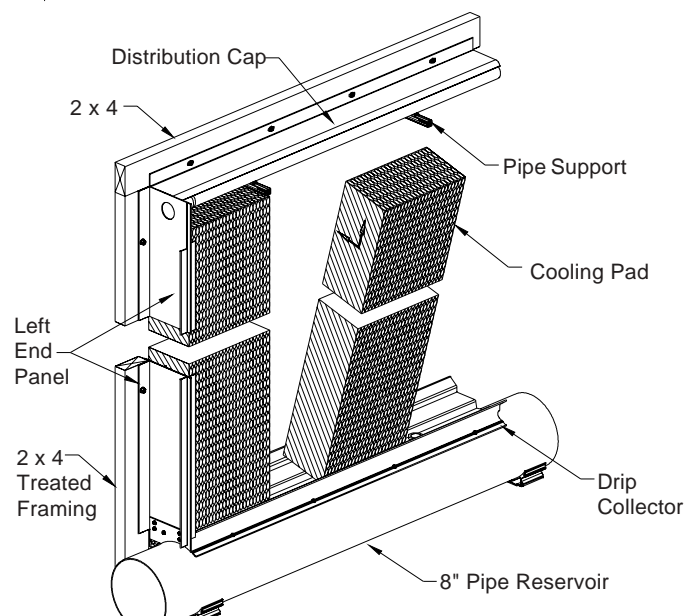

Figure 15
- 21) Make sure caulk is dry and begin putting cooling pad in place, taking care to position pieces tight together. If your pad has Directional Arrows, position arrows to point upward and to the inside of the building. **See Figure 15.** Continue this pattern, stopping at the next to the last piece of pad.